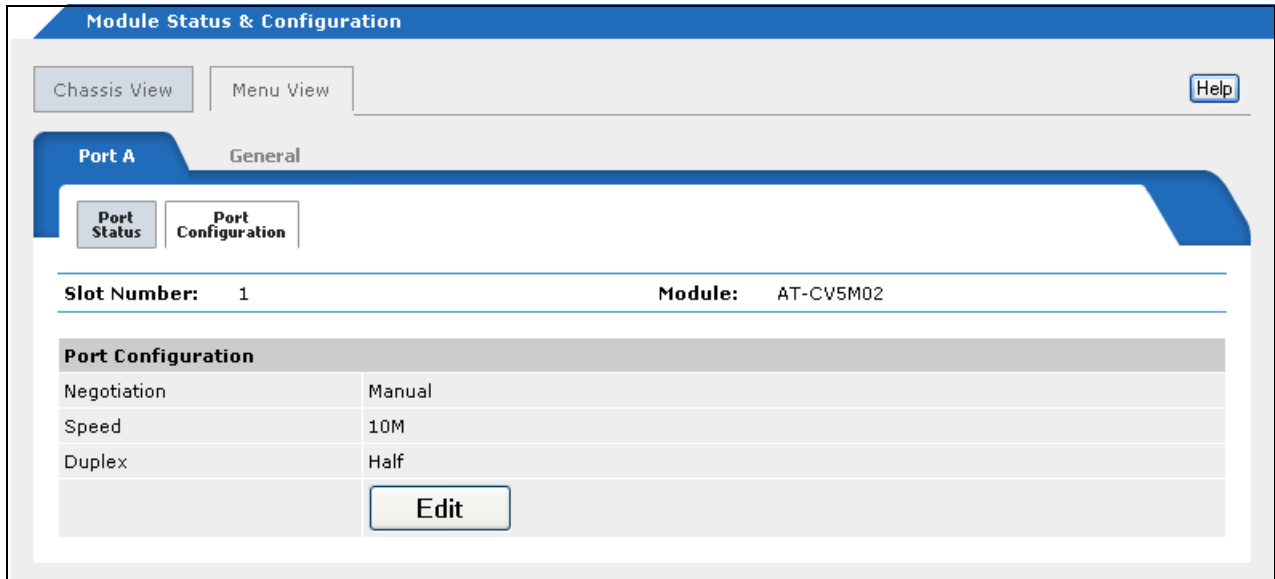

Figure 38. 10/100Base-TX Port on the Management Card
3. Click the **Port Configuration** tab, shown in Figure 38.